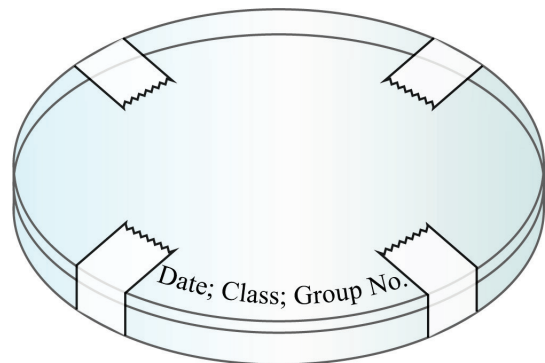

Fig. 26
16. Stack the plates. Place short strips of adhesive tape at opposite edges of LB agar plates (Fig. 26) to prevent the plates from being accidentally opened.